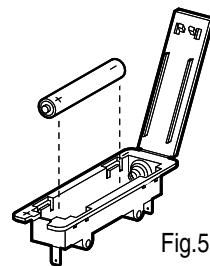

Fig.5.
3. Fit the new battery ensuring (+) terminal is next to the (+) sign on the battery. See Fig. 5.